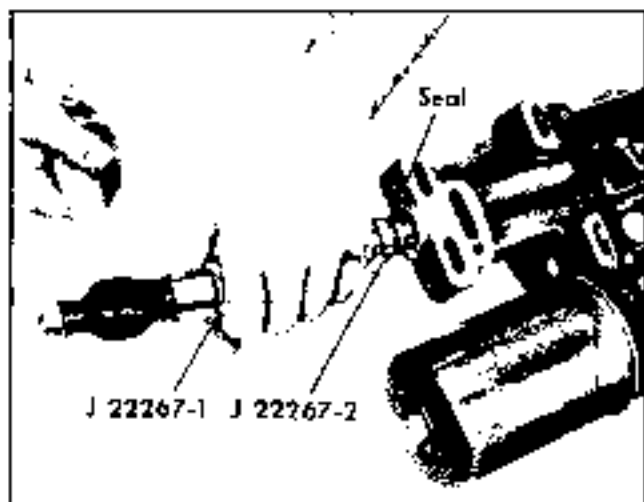

Fig. 6-43 Installing Seal
8. Use tool J 22267-1 and -2 and install seal (Fig. 6-43).